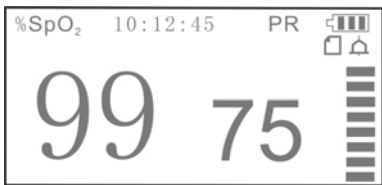
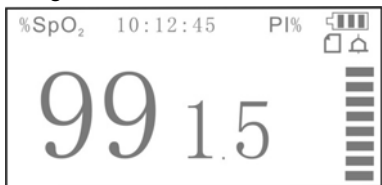

Figure 8A PR Observation Screen
Figure 8B PI Observation Screen
On default screen, press “” Mode/OK key to enter into other screen layouts (as shown in Figure 8A).
-  (Navigation key): shift screens between PR observation screen (Figure 8A) and PI observation screen (Figure 8B).
-  (Mode/OK key): shift screens among four screens (as shown in Figure 6, Figure 7, Figure 8A and Figure 8B.)